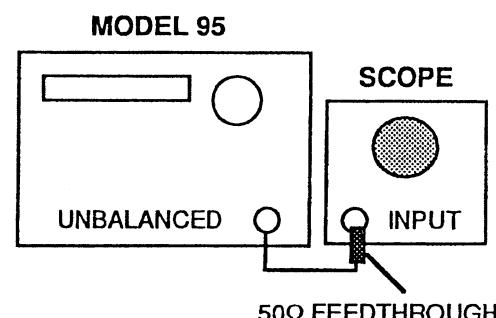

Figure 4-6. SCM Null Setup
2. Connect the test equipment as shown in figure 4-6. Set the scope to 50 mV/div.